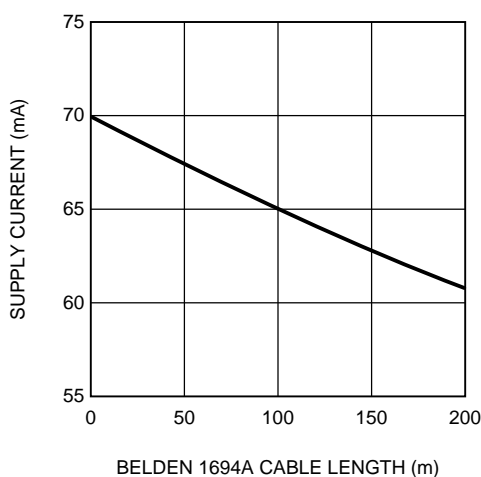
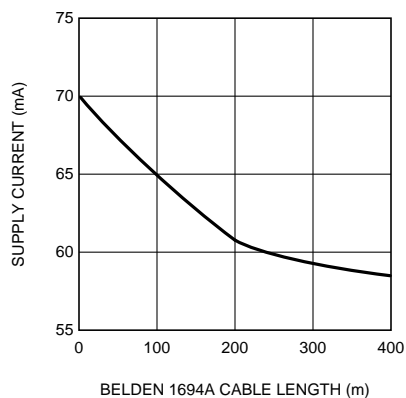

Figure 3. Supply Current vs. Belden 1694A Cable Length, 1.485 Gbps
Figure 4. Supply Current vs. Belden 1694A Cable Length, 270 Mbps
- (6) Supply current depends on the amount of cable being equalized. The current is highest for short cable and decreases as the cable length is increased. Refer to Figure 3 and Figure 4.
The supply current (I_{CC}) depends on the amount of cable being equalized. The current is highest for short cable and decreases as the cable length is increased. Figure 3 shows supply current vs. Belden 1694A cable length for 1.485 Gbps data and Figure 4 shows supply current vs. Belden 1694A cable length for 270 Mbps data.